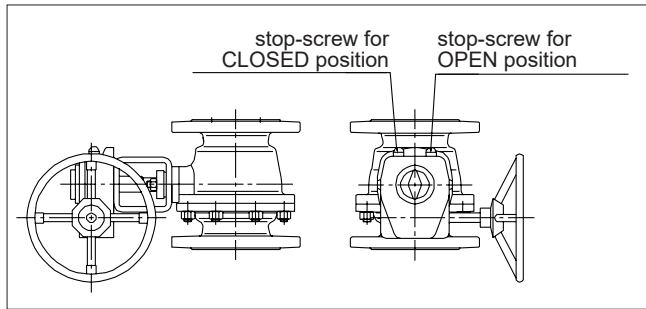

Fig. 16 Open and closed positions of the M actuator
- Adjust the ball open and closed positions with the hexagon screws located at the side of the housing (see Figure 16). The stop-screw for the open position is nearest to the handwheel on the side of the housing and the screw for the closed position is at the opposite end. The turning directions for the handwheel are marked on the wheel.